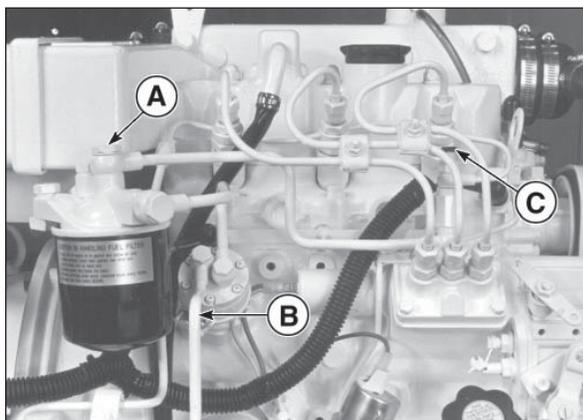

Figure 11: M753W Fuel System.
2. Loosen bleed bolt “A” (Figure 11) on top of the filter. Pump hand primer “B” on fuel lift pump until pure fuel (no bubbles) escapes from bleed bolt “A”. Tighten bleed screw “A”.